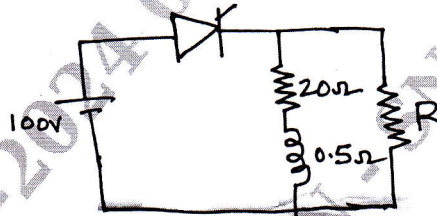

Fig Q6(c)
- c. In the thyristor circuit shown in Fig Q6(c). The SCR has a latching current of 50mA and is fired by a pulse of length 50 μ sec. Show that without resistor 'R' the thyristor will fail to remain on. When the firing pulse ends then find the maximum value of 'R' ensure firing.